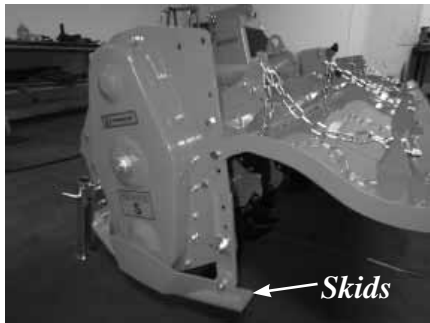

Fig. 1
- STEP 1 -** Adjust both skids up for deepest position of tines (*Fig. 1*).